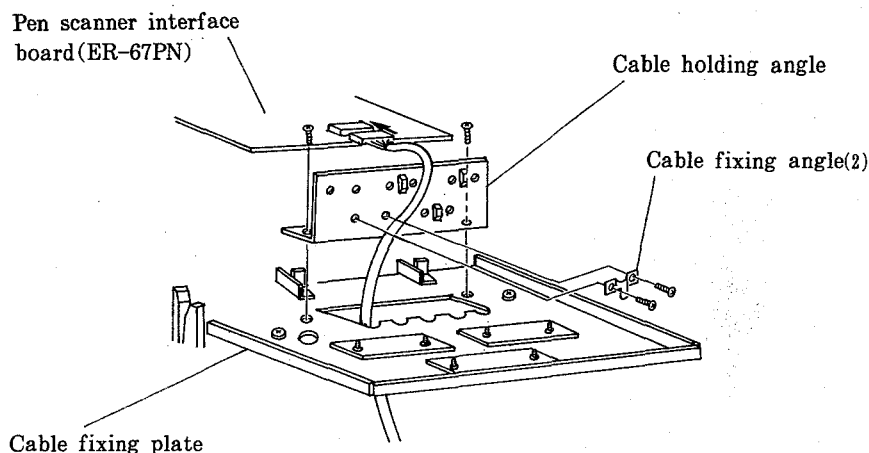

Fig.53
- (7) As shown in Fig.53 above, insert the pen scanner cable into the hole in the cable fixing plate from the lower side, and connect the cable to the pen scanner interface board.
- (8) Use the cable fixing angle (2) to fix the pen scanner cable onto the cable holding angle.
- (See Fig.53 above.)
- (9) Attach the cable holding angle to the cable fixing plate as before.
- (10) Reverse the procedure (2) to attach the rear cover.
- (4) Remove the screws (2 pcs.) which are fixing the cable holding angle, and remove the cable holding angle from the cable fixing plate. (See Fig.53.)